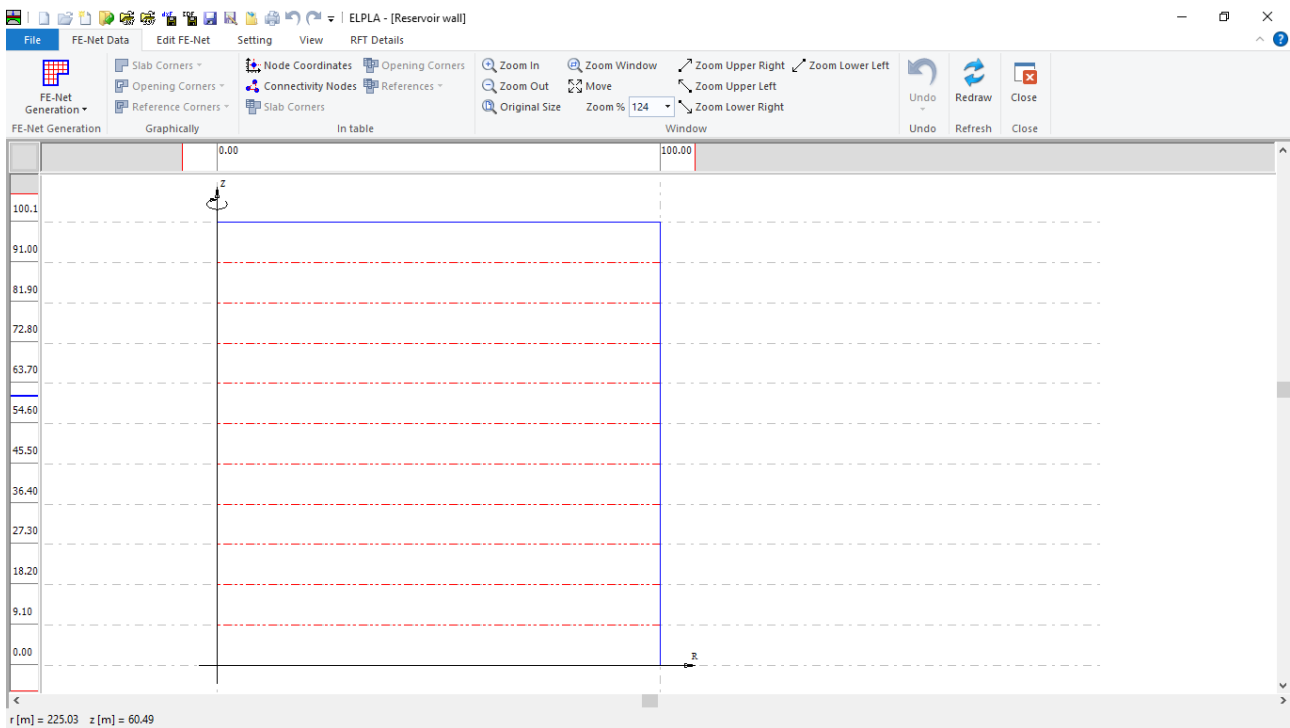

Figure 4.9 Generated FE-Net
Click "Finish" button, the FE-Net appears in Figure 4.9
- Choose "Save" command from "File" menu in Figure 4.9 to save the data of the FE-Net
- Choose "Close" command from "File" menu in Figure 4.9 to close the "FE-Net" window and return to *ELPLA* main window